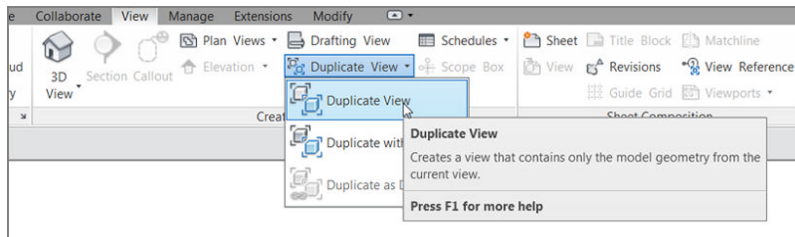

FIGURE 21.3: Duplicating the view
6. Make sure you're in Level 1. On the View tab, click Duplicate View ➤ Duplicate View, as shown in Figure 21.3.